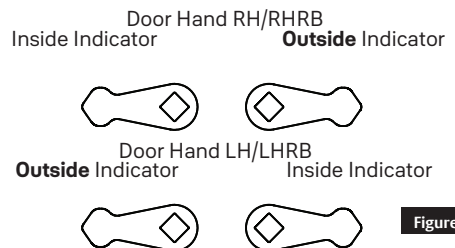

Figure 3
Next, verify inside and/or outside indicators are handed correctly, using Spindle Cam Position chart. (Figure 3) If they are handed correctly, skip to Step 5 "Prepare Door".
2. Position spindle cam in correct direction for door hand. (Figure 3)